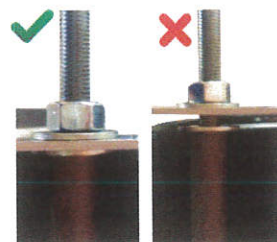

Fig. 3
**Please Note (Fig. 3): The Fan and Brackets should sit squarely against the spacers and washers. There should not be any distortion or need to force the brackets in place. Failure to ensure this may result in the damage to the Fan or Radiator and invalidate any warranty.**